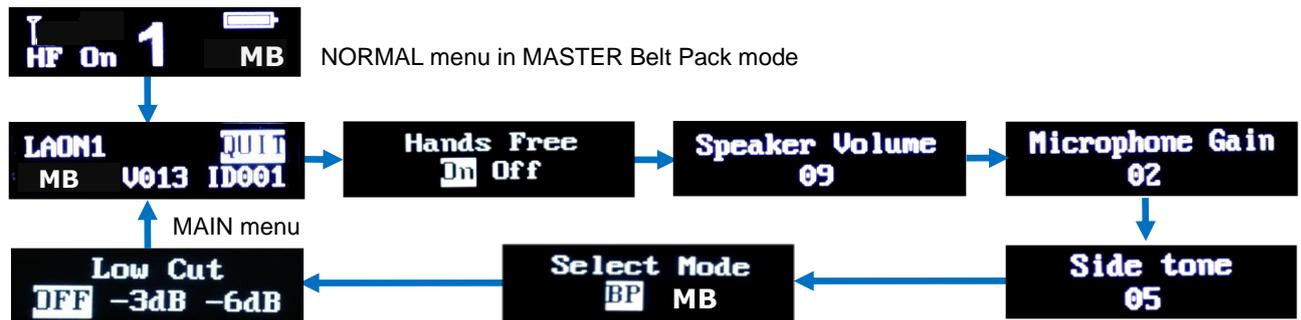

Figure 4-17. Master Belt Pack (MB) menus shown sequentially
Upon the power on the Belt Pack in MB mode, 'DFS detecting' with a time indicator will be indicated in the Belt Pack display. Once the one (1) minute scanning process is completed, "MB" will appear in the bottom-right of the NORMAL menu. The menus of the Master Belt Pack (MB) are as shown from the figure 4-17.